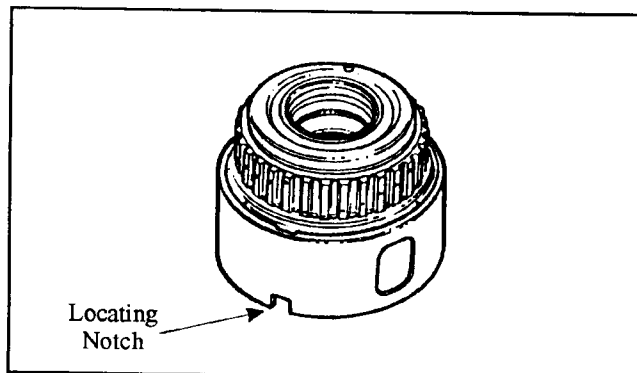

Figure 58
**NOTE:** The supporting tube sits in the case. A notch in the bottom of the tube fits over the locating stem on the B1 clutch housing (see figure 58).